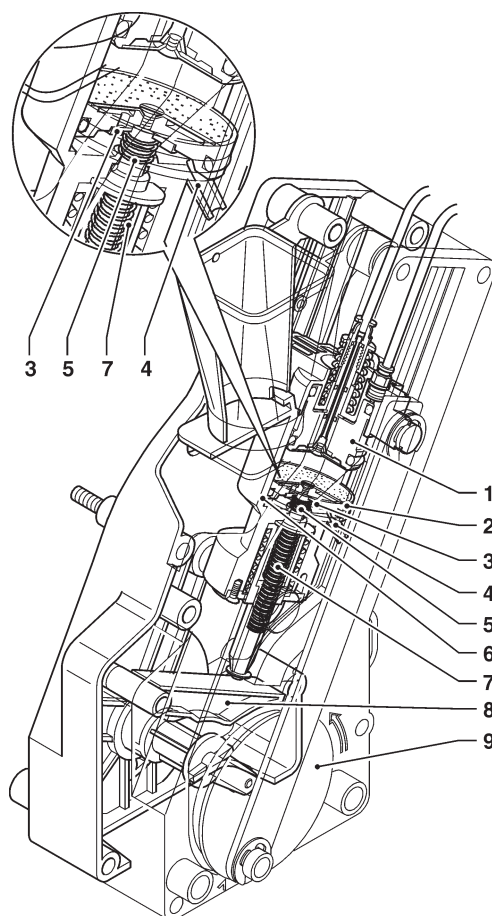

Fig. 23
As soon as the rotation of the ratio-motor is completed (see fig. 23), this will cause the rocking lever (5) to lift up the pistons and the dose.